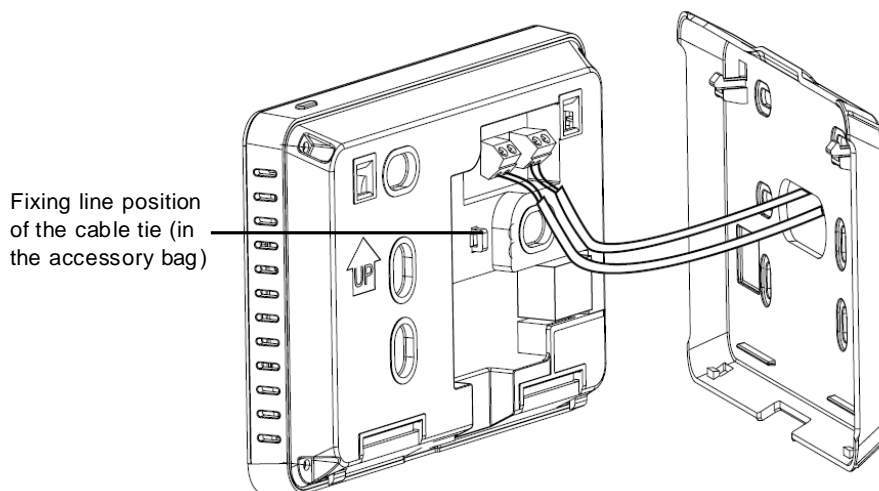

Figure 4 Centralized controller wiring diagram and cable tie fixing hole
3.1.3 This product adopts a concealed installation mode. The communication cable and power cord are fixed to the positions shown in Figure 4 using cable ties.